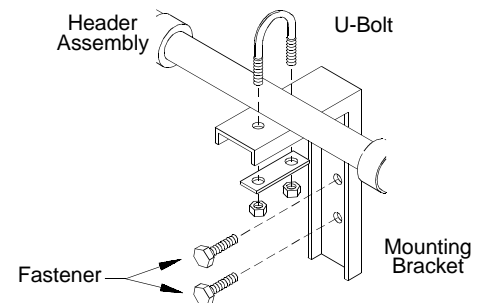

FIGURE 4
4. Mark the mounting holes and install fasteners suitable for the type of wall construction. (Figure 4)
6. Mark the mounting holes and install fasteners suitable for the type of wall construction. (Figure 4)
10. Mark the mounting hole and install fasteners suitable for the type of wall construction. (Figure 4)